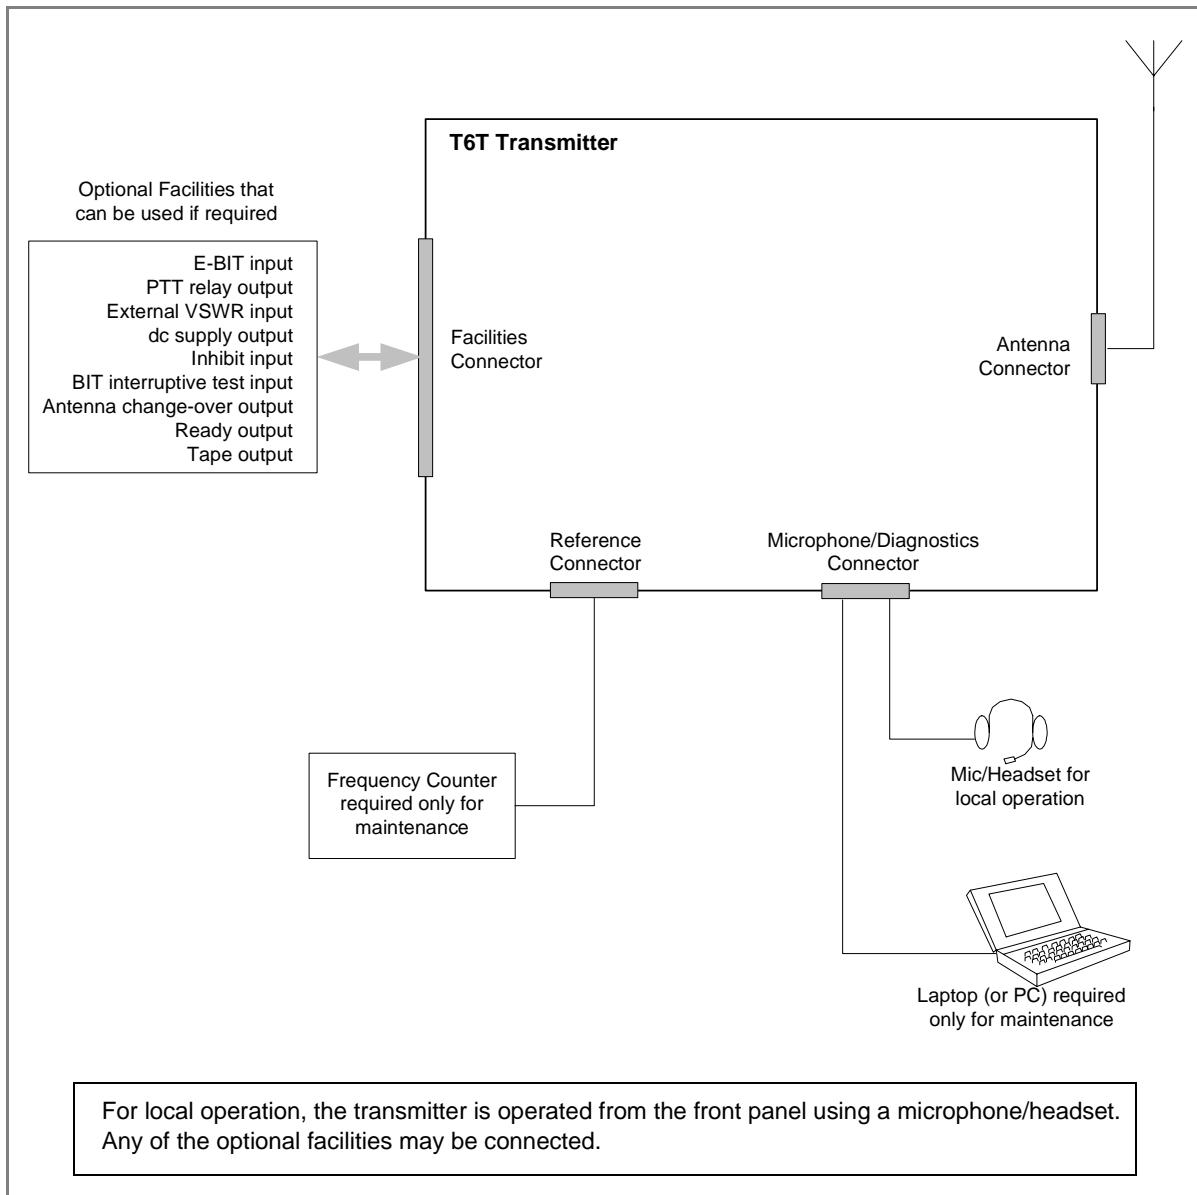
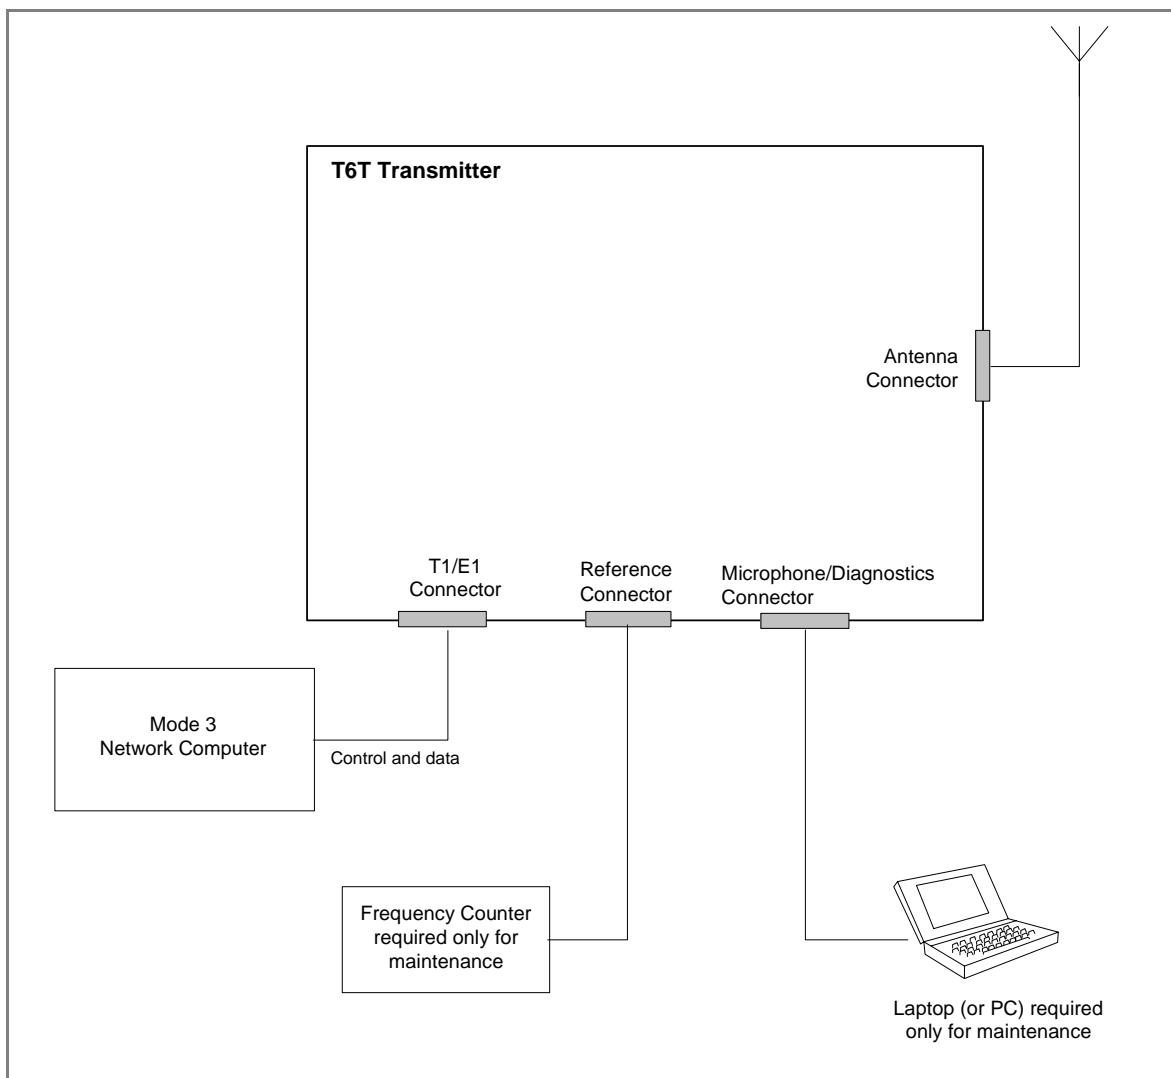

Fig 1 T6T Transmitter Configured for Local Operation
Fig 5 T6T Transmitter Mode 3 Configuration
- T6T transmitter configured for local operation (see Fig 1).
- T6T Mode 3 configuration. (see Fig 5).
Making the external signal connections involves configuring the transmitter to suit its operational mode. Illustrations showing various configurations are shown in Fig 1 to Fig 5; these figures should be used only as a guide.